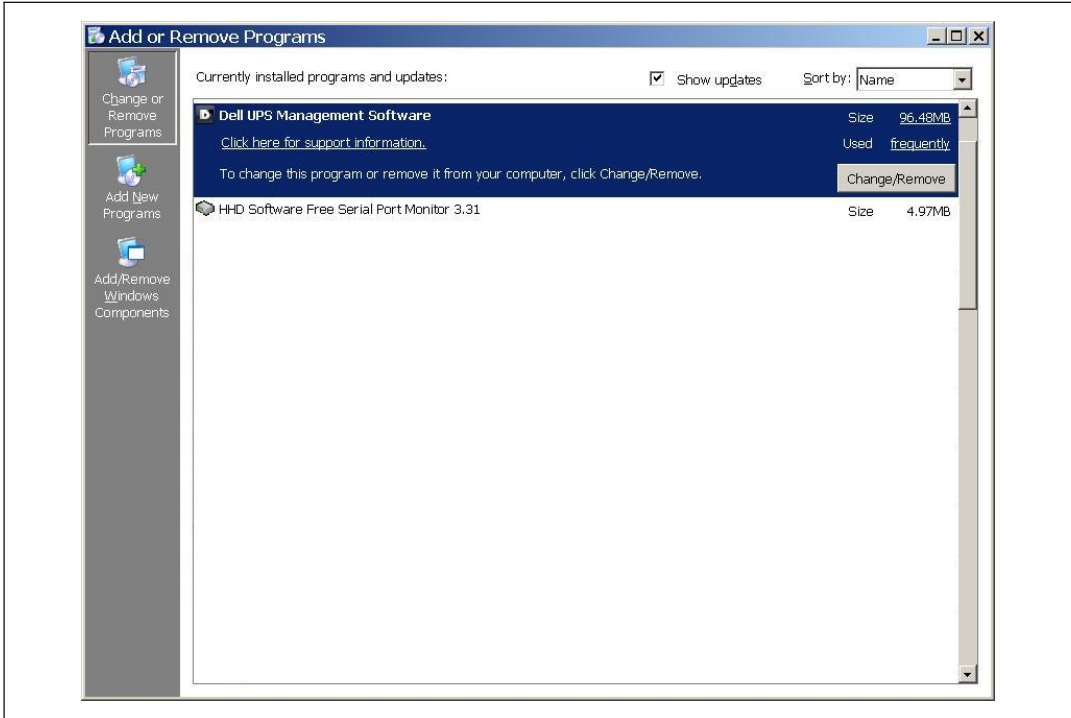

Figure 24. Add or Remove Programs
- Select Start menu > Control Panel > Add/Remove Program. Select the Dell UPS Management Software and click Change/Remove (see Figure 24).